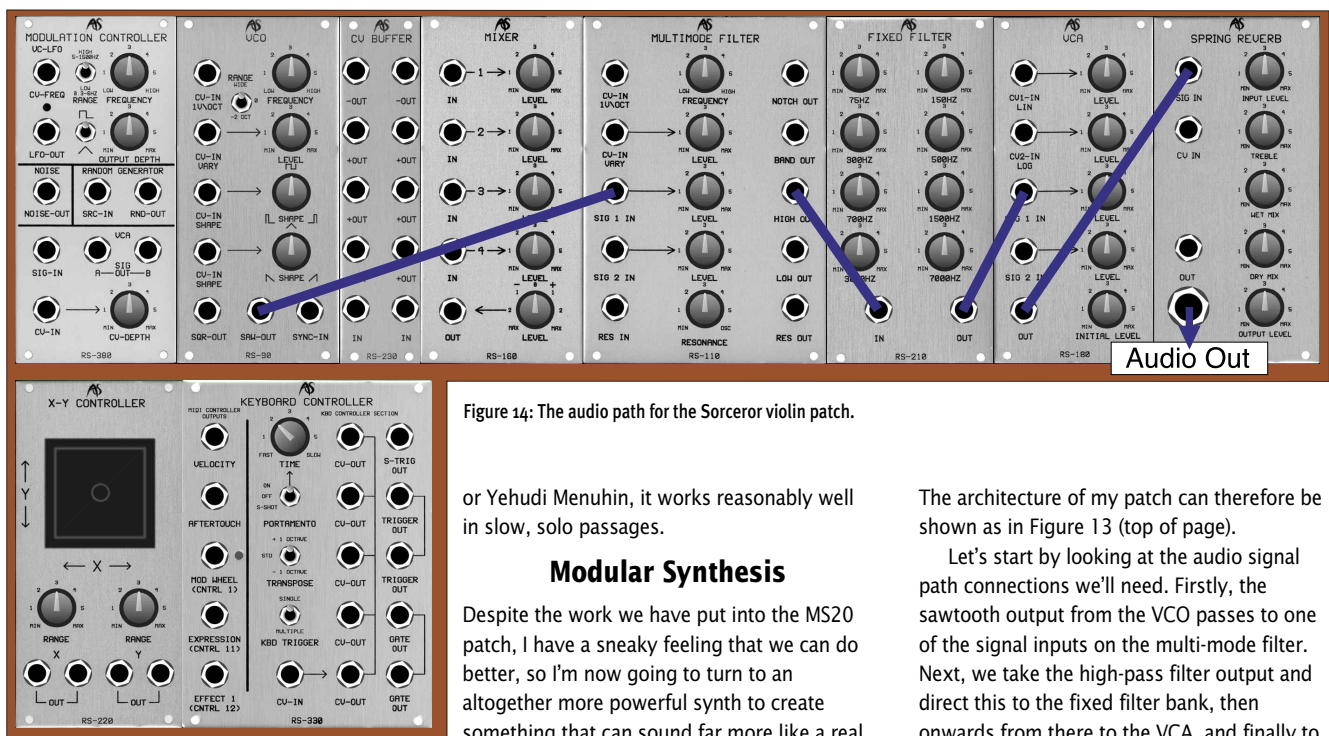

Figure 14: The audio path for the Sorcerer violin patch.
▶ the spring reverb before the audio reaches the outside world. I've shown these connections as blue cords in Figure 14.